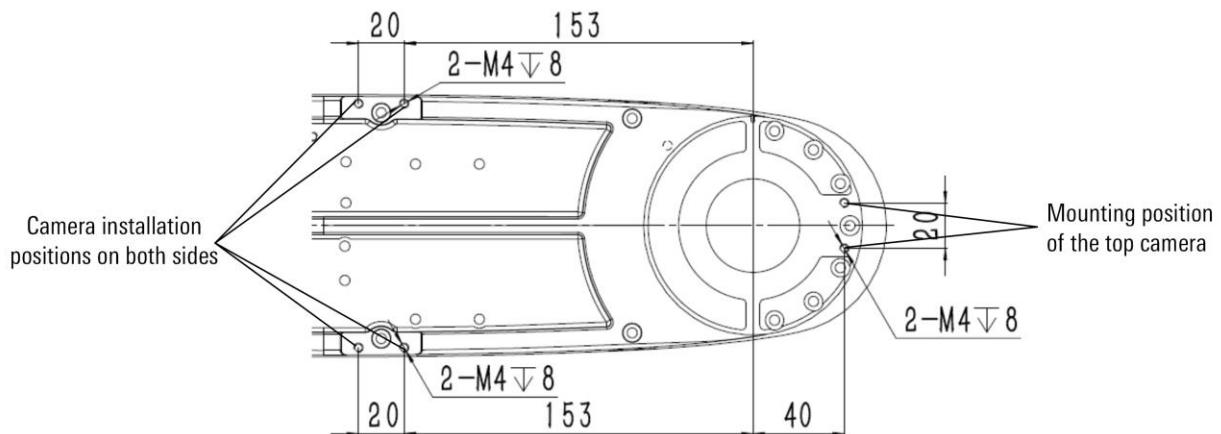

Figure 5-14 Diagram of the camera installation position of the AIR6SC-750A arm
When installed on both sides of the forearm (shown in Figure 5-14): $WM = M (L1)^2 / (L1+L2)^2$
When installed at the top of the forearm (shown in Figure 5-14): $WM = M (LM)^2 / (L2)^2$
LM: The distance from the center of rotation of the J2 axis (shown in Figure 5-14) to the center of gravity of the camera, etc.
The manipulator has a camera mounting position on the forearm, and the mounting hole specifications and dimensions are shown in Figure 5-14.